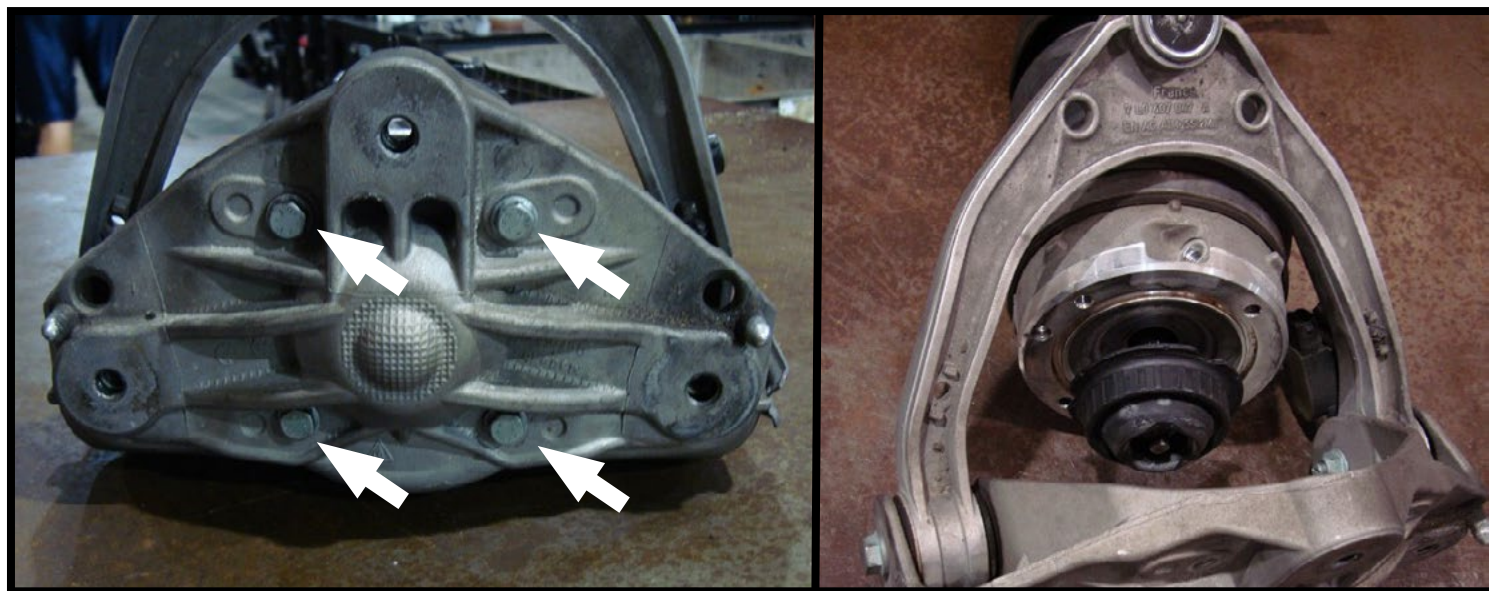

FIGURA 20-1
1. RIMUOVERE E SCARTARE I QUATTRO BULLONI CHE ASSICURANO IL SOFFIETTO AD ARIA AL RELATIVO SUPPORTO SUPERIORE. (FIGURA 20-1)